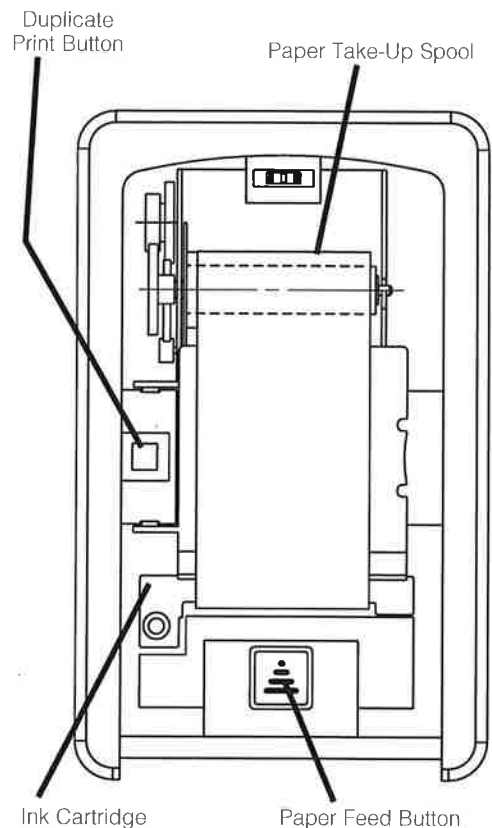

Figure 8-2.
7. Refer to figure 8-2. Close the swing door, then insert the end of paper into the (removable) paper take-up spool, and install the spool back into position.